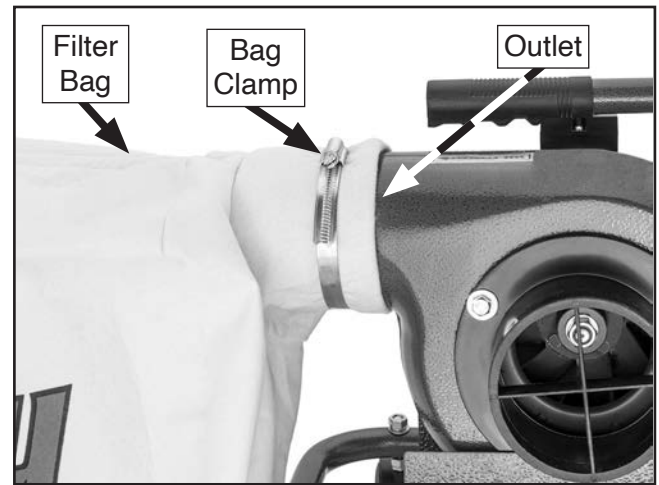

Figure 7. Filter bag installed on outlet.
3. Fit filter bag over outlet and secure with provided bag clamp (see **Figure 7**).